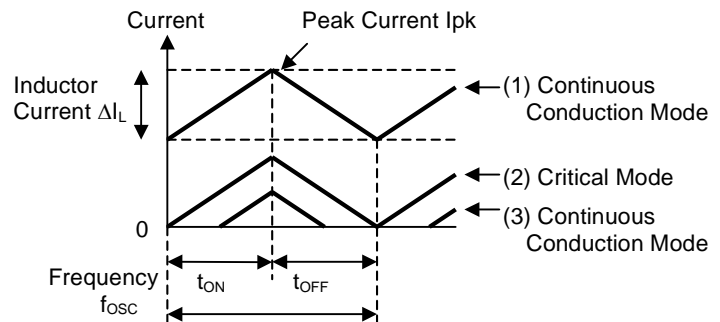

Fig. 7. Inductor Current State Transition
Ideally, the value of  $L$  is set so that inductance current is in continuous conduction mode. However, as the load current decreases, the current waveform changes from (1) CCM: Continuous Conduction Mode  $\rightarrow$  (2) Critical Mode  $\rightarrow$  (3) DCM: Discontinuous Conduction Mode (Fig. 7.).